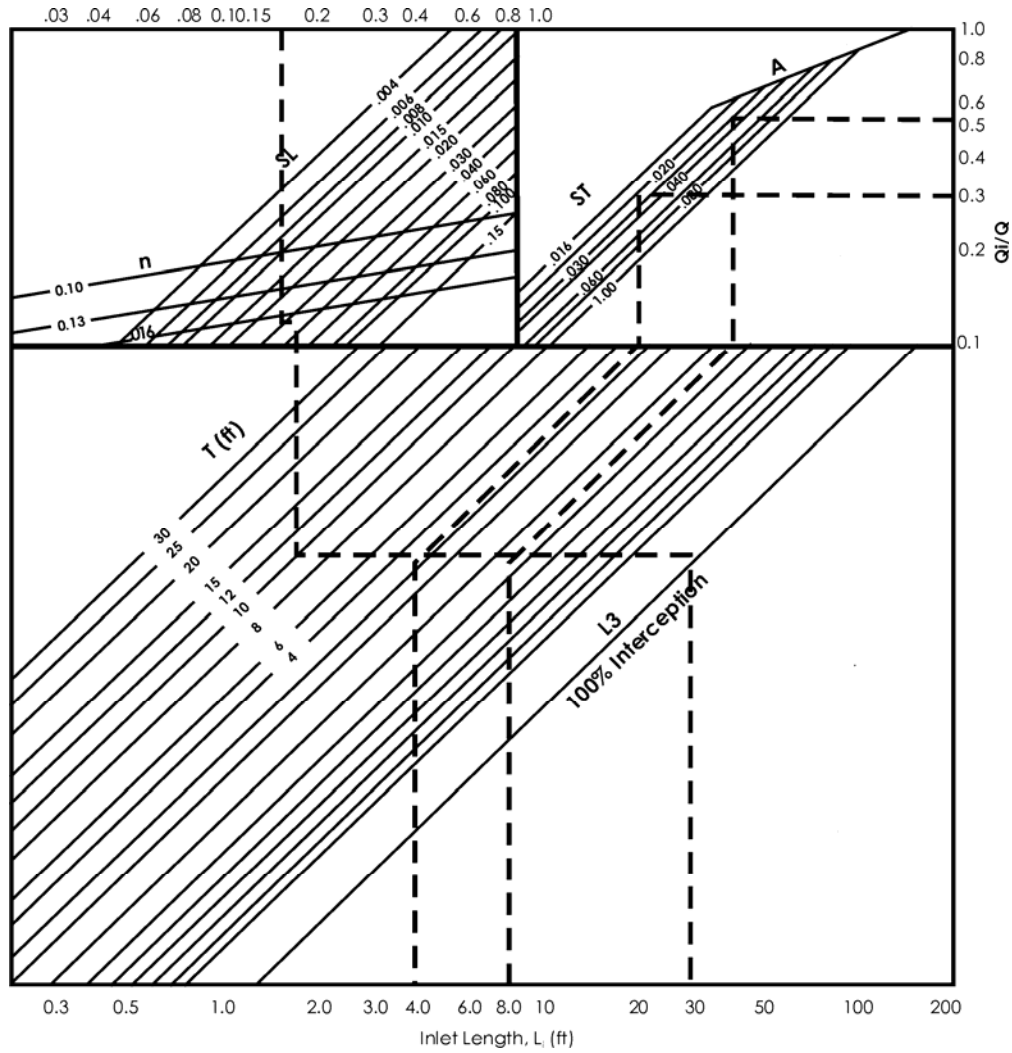
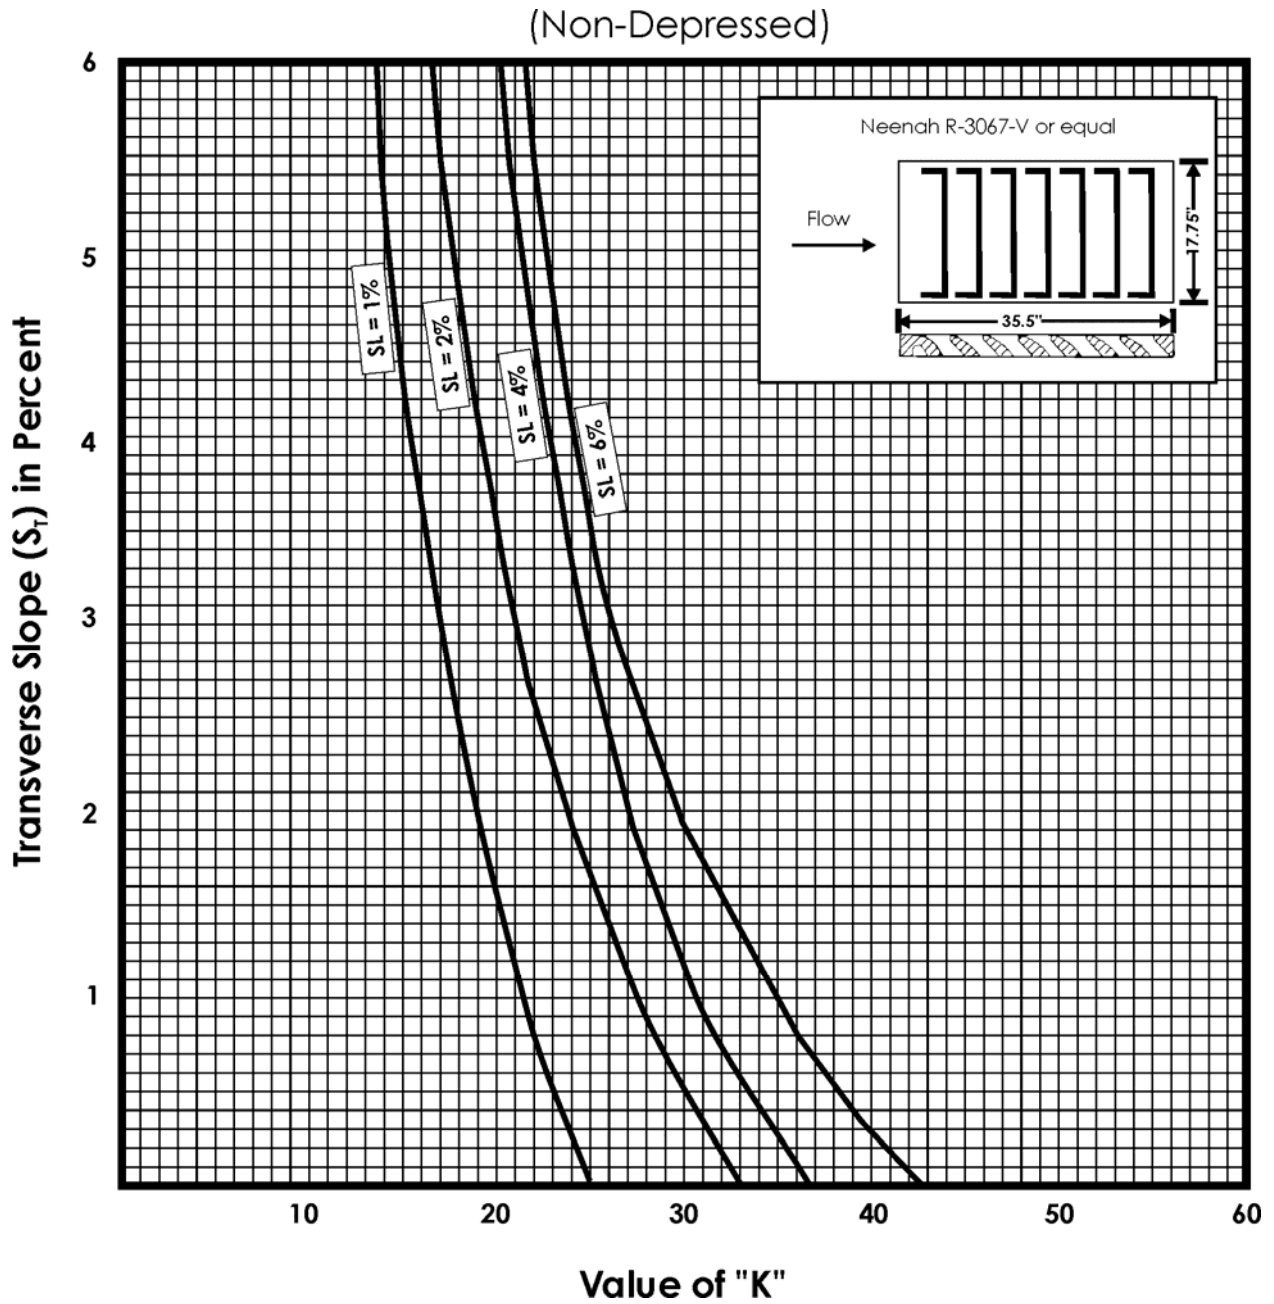

Figure 3: “K” Values for Standard Type M-A, M-B, M-C Intakes – Vane Grate & Curb Hood
Figure 4: "K" Values for Driveway Grate Intake
- K = Value Used in Equation $Q = Kd$ (See Figures 3 and 5)
Figure 3 is used to determine "K" for a vane grate and includes the curb hood. Figure 4 gives "K" for a driveway condition where no curb hood can be used. The appropriate reduction factor from Table 1 must then be applied to obtain the actual flow intercepted by the intake.
Figure 3 is used to determine "K" for a vane grate and includes the curb hood. Figure 4 gives "K" for a driveway condition where no curb hood can be used. The appropriate reduction factor from Table 3 must then be applied to obtain the actual flow intercepted by the intake.
- 1) Enter Figure 3 with the transverse slope ($S_T = 2.0\%$)